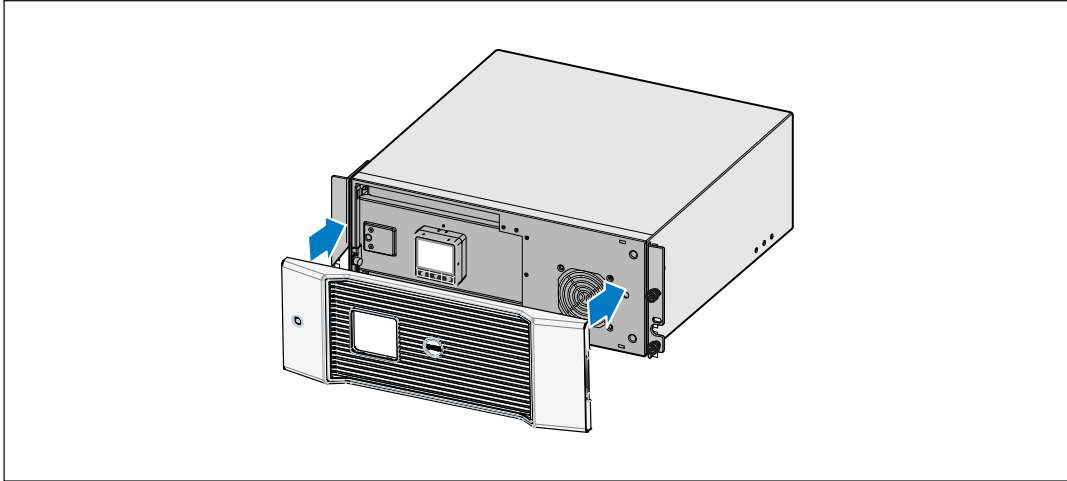

Figure 28. Replacing the UPS Front Cover
- 5 Replace the UPS front cover (see Figure 28).